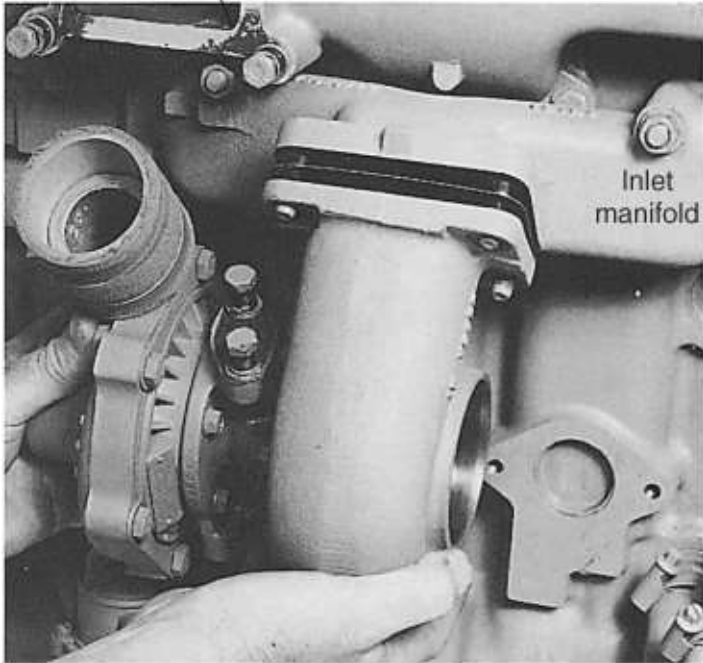

FIGURE 7-3. *Removing a turbocharger from the inlet and exhaust manifolds. (Courtesy Perkins Engines Ltd.)*
4. Remove all equipment attached to the cylinder head. This includes inlet and exhaust manifolds, as well as the turbocharger and aftercooler (if present; see Figure 7-3).